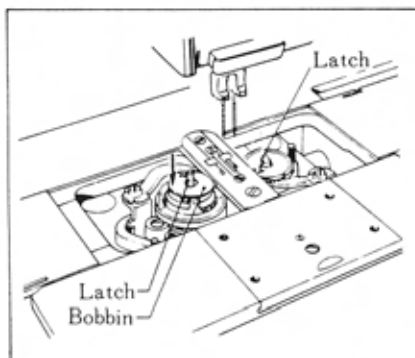

Figure 4a
4. Loading Bobbins (Figures 4a and 4b)
Place the bobbin into the rotary hook as shown in Figure 4a. Close the latch of the rotary hook. Pass the thread through the slit in the rotary hook so that the bobbin turns to the left. Pass the thread under the tension spring. Pass the thread through the clearance between the rotary hook and the bobbin case opener. Manually turn the machine drive pulley to lower needles and bring bobbin thread through throat plate.